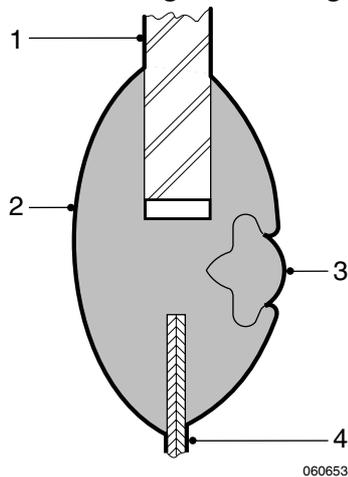

Fig.1 Section Through Glazing Rubber
6. Peel back the squab cover as far as the retaining rod (fig.1, 3) at the feature line. Note the position of the rod and the hog rings before pulling out the rod to release the cover.